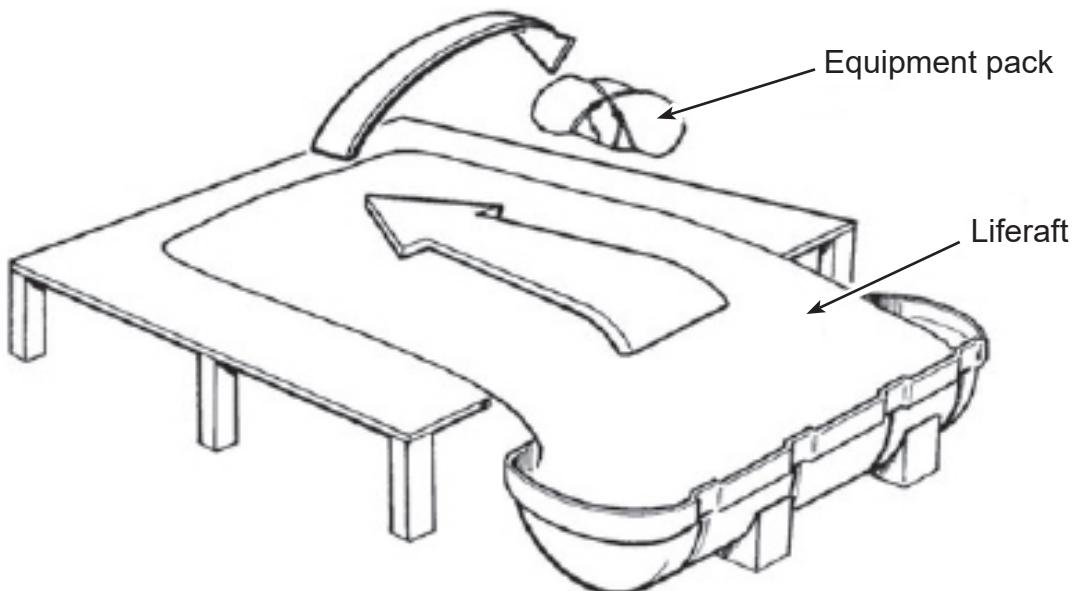

FIGURE 213
Refer to **Figure 213**.
4.2.14 Untie and remove the emergency packs. Refer to **Figure 213**.